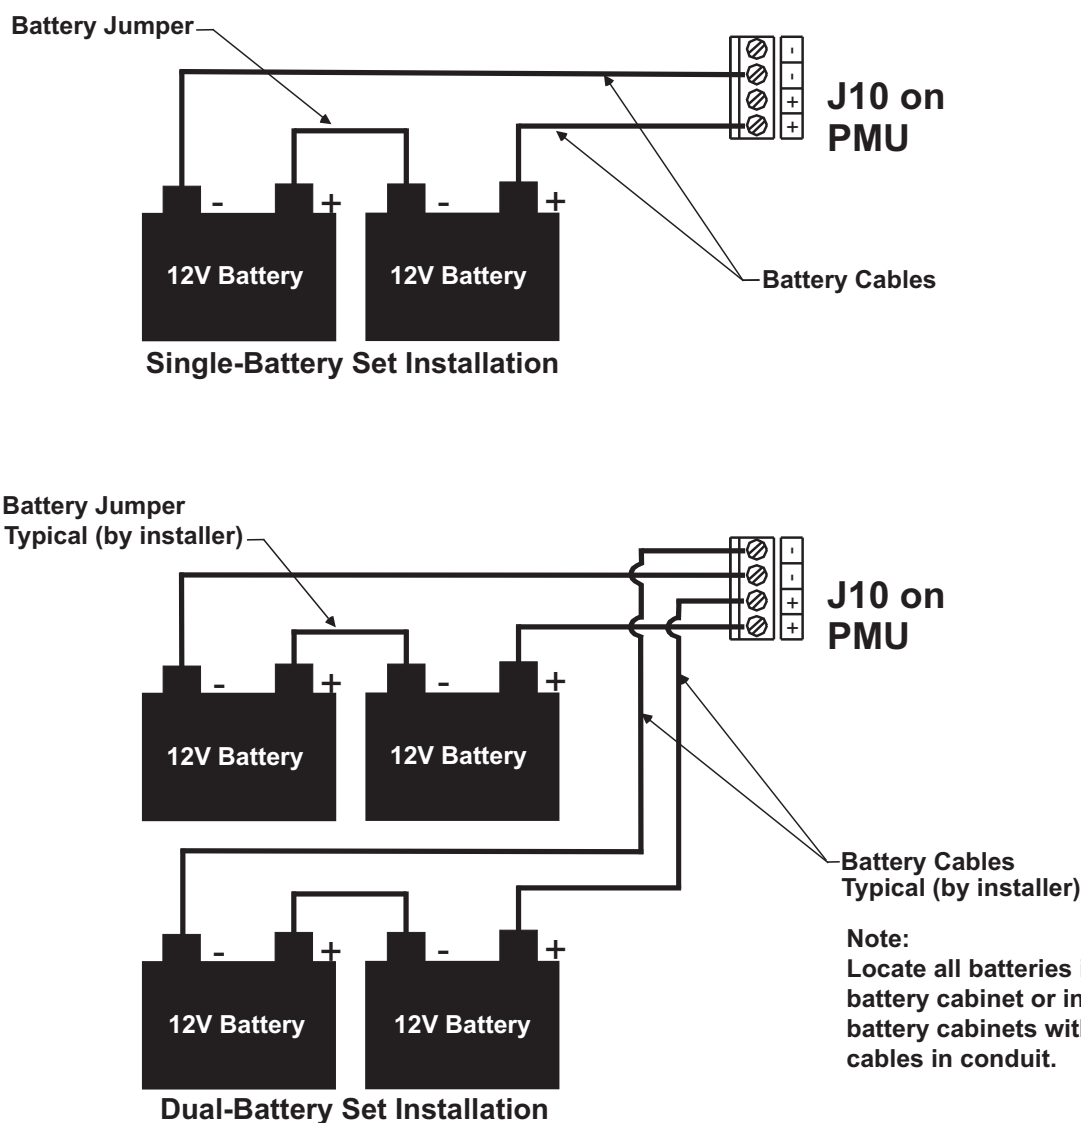

Figure 2-22. Standby Battery Connections
2. Connect two or more 12-volt, series-wired batteries of the required ampere-hour (AH) capacity to Terminal J10 on the PMU Board using battery cables found in the PMU Board hardware kit. See Figure 2-22 below.